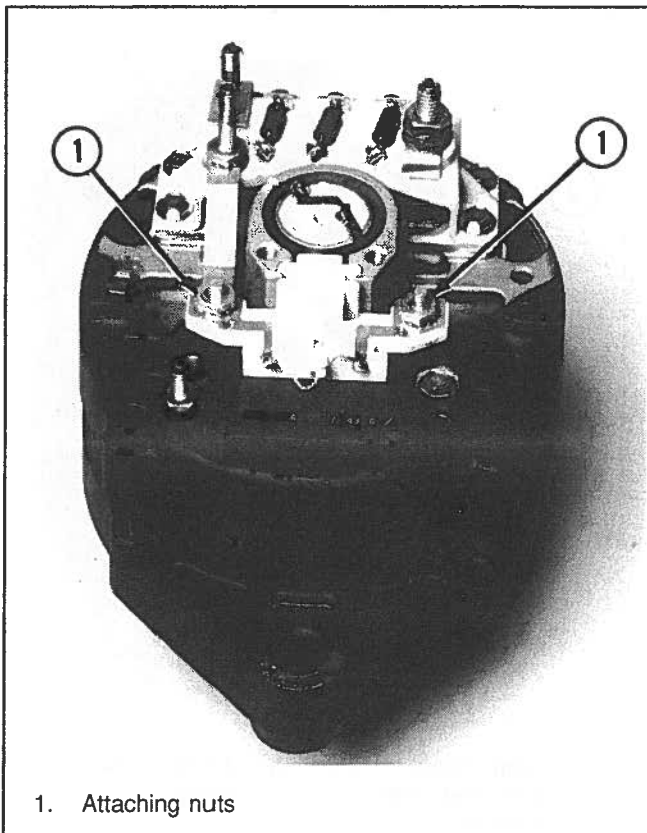

Figure 6-91. Installing Brushholder Assembly
11. Carefully insert the brushholder assembly into the grooves in the rear housing hub (Figure 6-91). Place one end of the (D+) strap on the brushholder mounting stud. Install both attaching nuts (See Figure 6-91). Secure the other end of the (D+N) strap to lower terminal on the diode trio.
1. Connect a voltmeter to the output (+) terminal and the ground terminal as shown in Figure 6-91.